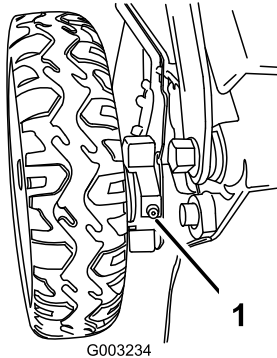

Figure 46
1. Wipe the grease fittings just inside the rear wheels with a clean rag (Figure 46).